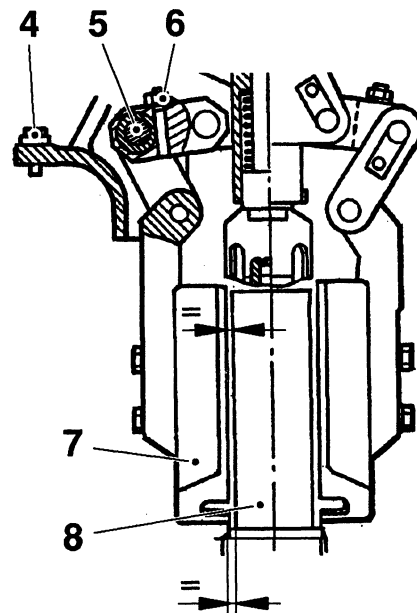

Fig. 2
- c) Loosen the nuts (6) and set the side lugs (7) in their outer position (tap on the locking pin to set the eccentric axle pin (5) free).
- g) Set the side lugs parallel to the station (8), see fig. 2. Tighten the nut (6).